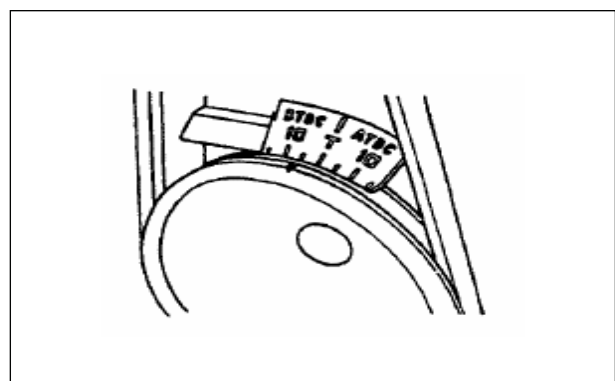

Figure 37. Engine Set at 0° Top Dead Center (TDC)
6. Manually bar the engine so that the timing indicator on the crankshaft pulley lines up to 0° Top Dead Center (TDC) of the #1 cylinder (**Figure 37**).